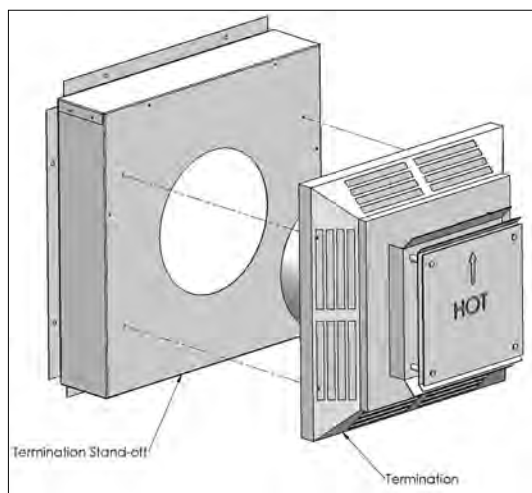

Figure 31a: Attach Termination Stand-off
Step 4. Attach the termination to the termination stand-off with four screws (refer to Figure 31a). Before attaching the Vent Termination to the termination stand-off, run a bead of non-hardening sealant around its outside edges, so as to make a seal between it and the termination stand-off.